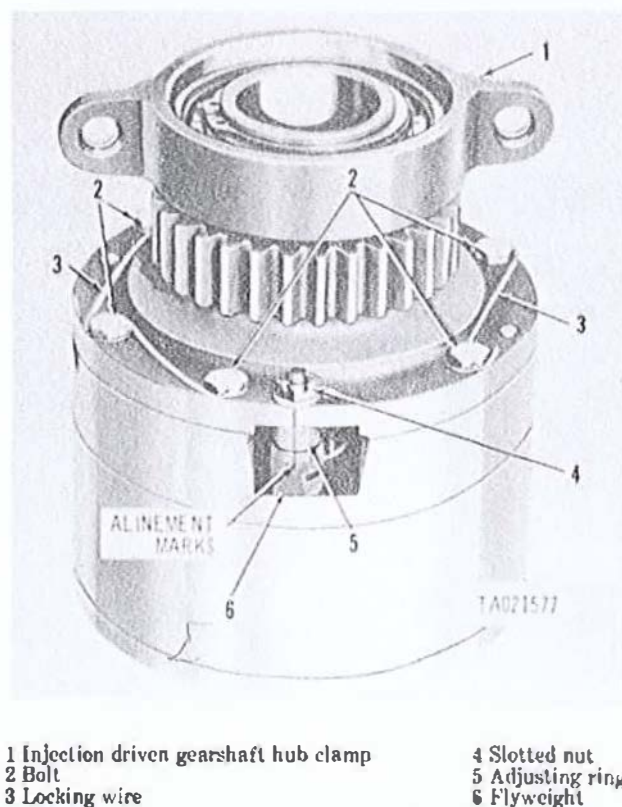

Figure 3-234. Removing advance flyweight adjusting ring and injection pump drive gearshaft.
Before removing bolts securing the components of the advance assembly, check alignment and legibility of scribe marks on adjusting ring boss, flyweight, and drive gearshaft flange (fig. 3-234). The marks must be aligned to insure proper assembly. If the scribe marks are not aligned, scribe a new line on the gearshaft flange in alignment with the ring boss scribe line. Identify the new line using a prick punch dot or some other method. The new gear flange mark and ring boss must be in alignment for proper assembly.
(2) Remove injection driven gearshaft hub clamp (1, fig. 3-234) from injection pump drive gearshaft ball bearing. Cut locking wire (3) and remove six bolts (2) attaching drive gearshaft to injection advance vane housing. Remove two cotter pins, slotted nuts (4), and flat washers attaching injection advance flyweight fulcrum pin to injection pump drive gearshaft. Remove gearshaft (17, fig. 3-236), ball bearing (15) and retaining ring (14) as an assembly.